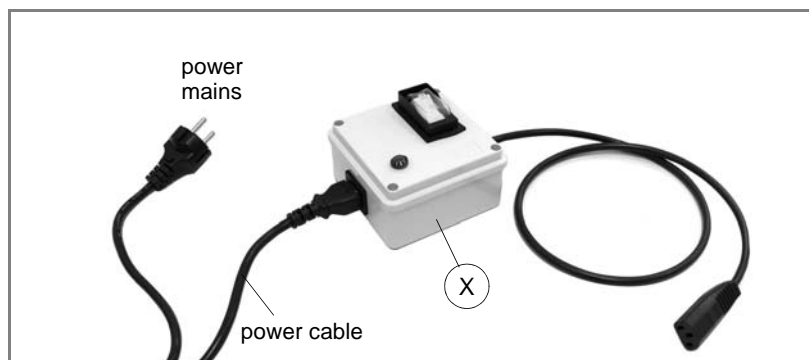

Fig. 7
First connect the safety device (X) to the key-cutting machine and the power cable then connect the free end of the power cable to the power mains (fig.7).